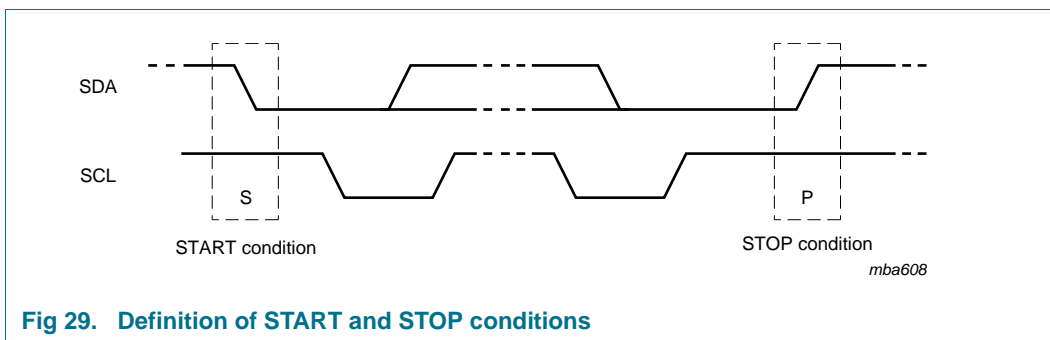

Fig 29. Definition of START and STOP conditions
Both data and clock lines remain HIGH when the bus is not busy. A HIGH-to-LOW transition of the data line while the clock is HIGH is defined as the START condition (S). A LOW-to-HIGH transition of the data line while the clock is HIGH is defined as the STOP condition (P) (see Figure 29).